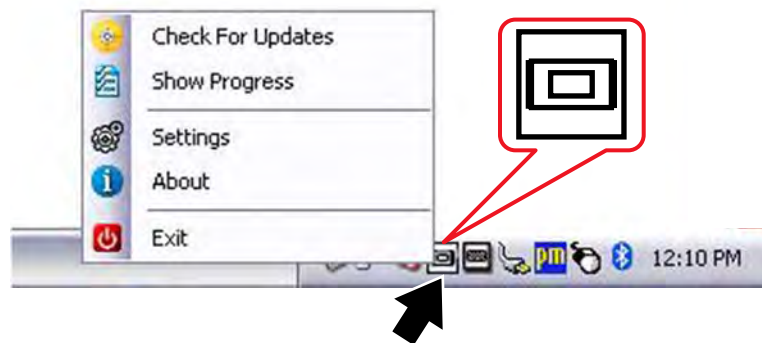

Figure 15-5 ShopStream Update Tool icon and menu
3. To create an account, follow the illustrated instructions in Figures 15-5 to 15-7.
1. Select the SST icon in the system tray to open the menu (Figure 15-5).